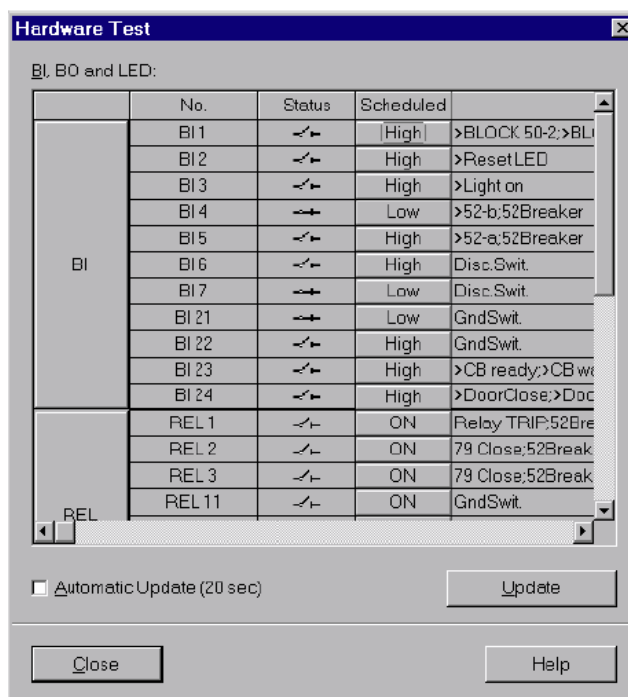

Figure 3-17 Test of the Binary Inputs and Outputs — Example
- Double-click in the list view on **Device inputs and outputs**. The dialog box with this name is opened (see Figure 3-17).